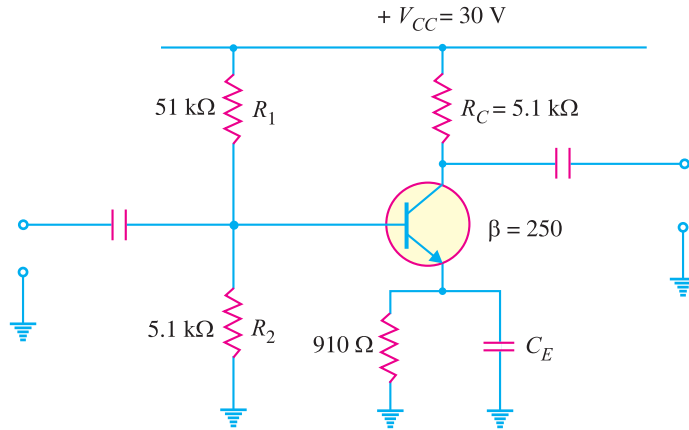

Fig. 10.47
9. Determine the voltage gain for the amplifier circuit shown in Fig. 10.47.
10. What is the input impedance of the amplifier circuit shown in Fig. 10.47 ? [1.75 kΩ]